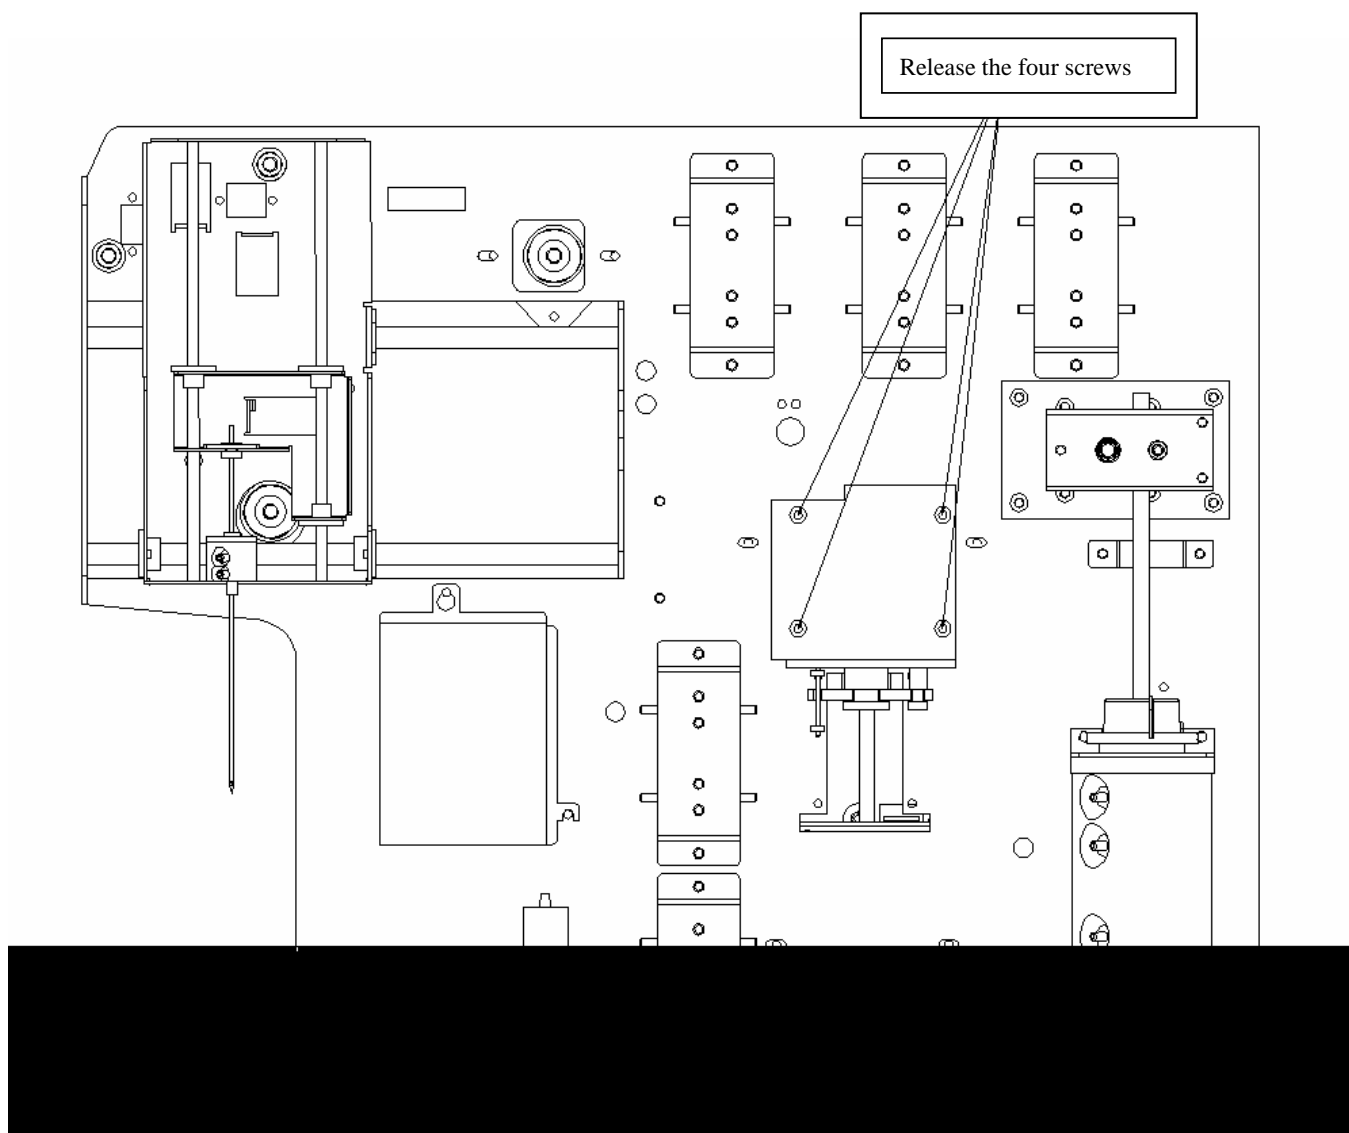

Figure 4-2-3
1) Release the four screws to fix the sampling syringe components, disassemble the sampling syringe components from the inner board, as shown in Figure 4-2-3: